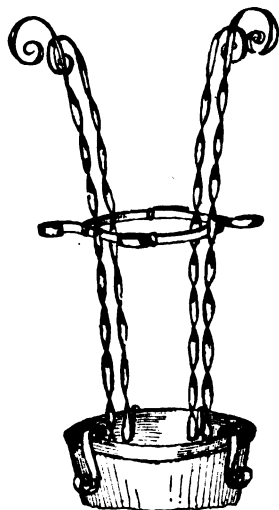
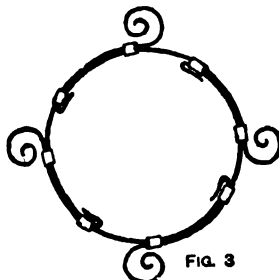
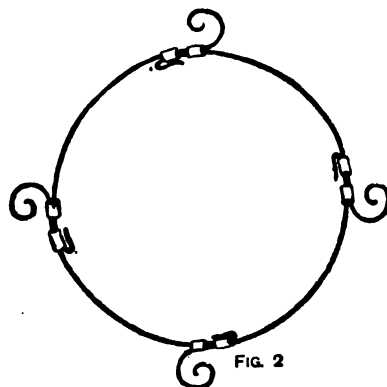

FIG. 1
FIG. 3
FIG. 2
**Easily Made Jewel Box.**—The jewel box here described could also be used for nicknacks (see Figs. 1 and 2). It is made from  $\frac{1}{2}$ -in. stuff, two sides being  $8\frac{1}{2}$  in. long by 4 in. wide, one of which is cut through to give a piece  $1\frac{1}{2}$  in. wide, making the front for a small drawer A, ends  $8\frac{1}{2}$  in. by 4 in., a piece C  $7\frac{1}{2}$  in. by  $5\frac{1}{2}$  in. for a partition to come flush with a piece  $2\frac{1}{2}$  in. wide, and two pieces 9 in. by  $6\frac{1}{2}$  in. for the bottom D and lid E. The sides and ends are butt-jointed, and the false bottom C is put in; also fix the bottom of the box, which will leave  $\frac{1}{2}$  in. all round and which might be moulded. The top is fitted with two partitions F and G, making three compartments. A drawer H is now fitted with the  $1\frac{1}{2}$ -in. piece cut from the side for the front as aforesaid, and the back is  $\frac{1}{2}$  in. thick. When the drawer is home, a bradawl is driven through one compartment in the top down into the  $\frac{1}{2}$ -in.
**Motor Wagon Wheel.**—The box of the wheel of a motor wagon is of gunmetal, and the flanges are shrunk on the boxes, as shown at A (Fig. 1), made in two parts, so that they can take any size of spoke; 24 in. spokes are generally used. The plates are bolted, as shown in Fig. 2, to the size of the spoke to be used, a
small block of wood being put at top and bottom to keep the plates parallel. The spokes are then put in, a gauge being used to get them all alike. When all the spokes are driven in at equal distances apart at top and bottom, oak wedges are driven in to fill up the spaces between the spokes, and nailed. The flanges are 8 in. in diameter and 1 ft. 4 in. long; the felloes B (Fig. 2) are 2 in. deep by 2 in. wide; the tyres are  $2\frac{1}{2}$  in. wide by  $\frac{1}{2}$  in. thick, as shown at C (Figs. 1 and 2). In putting together the wheel, the spokes are driven in, tongued down to take the felloes, which, after being cleaned off, are ready for the tyres.
**Flower Pot Ladder.**—For the expanding flower pot ladder (Fig. 1) obtain four 24-in. pieces and four 9½-in. pieces of iron. Punch a hole in the centre of each 24-in. piece, and one 6 in. from the end of each 9½-in. piece. Having riveted the pieces together, the uprights
can be curled or left plain as preferred. The running joints must be left so as to move with a little pull. In turning up the end to fit on the pot, leave at least 1 in. inside the pot; then turn down. The extreme end can be turned with a scroll or left with a hook. In working these designs, leave the ends of strips round to soften the effect. Fig. 2 is a plan of the centre ring, open, while Fig. 3 shows it closed.
**Roofing-in Back Yard.**—Figs. 1 and 2 are elevation and section of a roof and front framing in a yard situated between two brick walls at the rear of a house. The front framing consists of 3-in. posts and rails, with 1½-in. sashes at the side and 1½-in. half glass doors. Below the subsill is ½-in. beaded matching. The skylight is composed of 2½-in. by 2-in. rebated and chamfered bars, tenoned at the upper ends into a 4½-in. by 1½-in. wall plate (see Fig. 3); the lower ends of the bars rest on the splayed head of the front framing. The bars are cut off in a vertical line with the framing below, and the glass runs past the end 1½ in. Along the front is fixed a moulded iron gutter covering the ends of the bars, the water being carried away by a pipe with a shoe discharging over or near a yard gully. The bars next the wall are single rebated and chamfered, and are fixed to wood plugs driven into the joints of the brickwork; the bar next the scullery window is fixed in the same